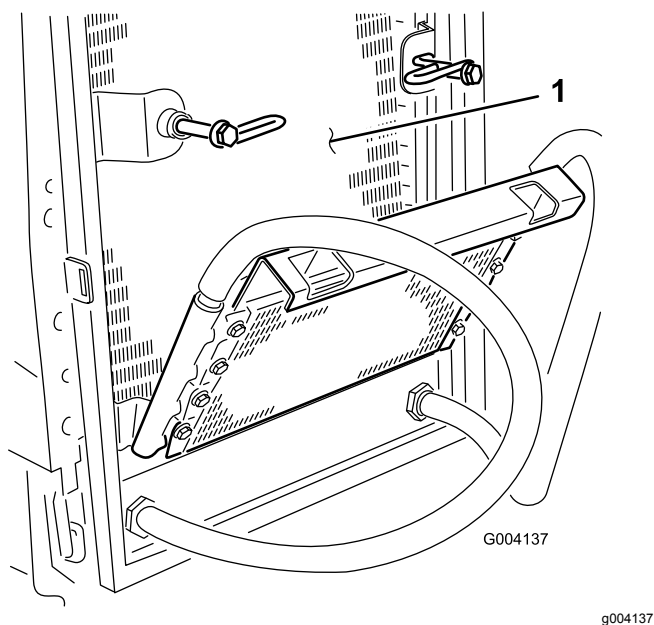

Figure 81
6. Thoroughly clean both sides of the oil cooler and the radiator (Figure 81) with compressed air.